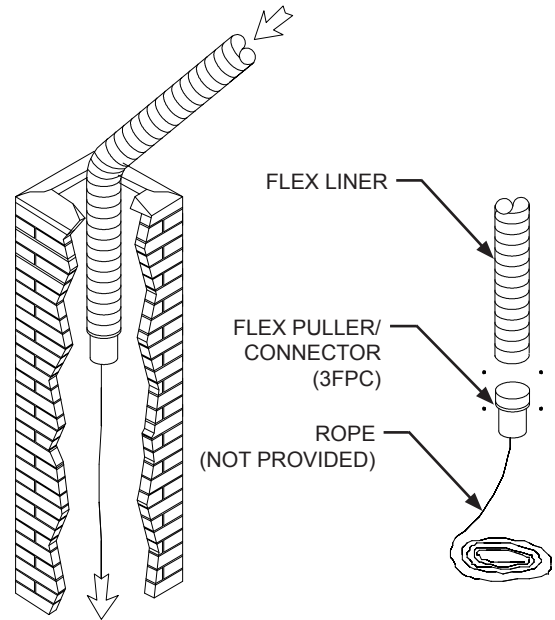

FIG. 2
Step 2. Insert a rope through the end of the Flex Connector and tie a knot at the end of the rope. Attach the Flex Connector to the Flex Liner using four sheet metal screws as shown (See FIG. 2). Carefully feed the liner down the chimney (masonry or zero clearance) and out through the damper. One person should feed the liner through the chimney bottom.